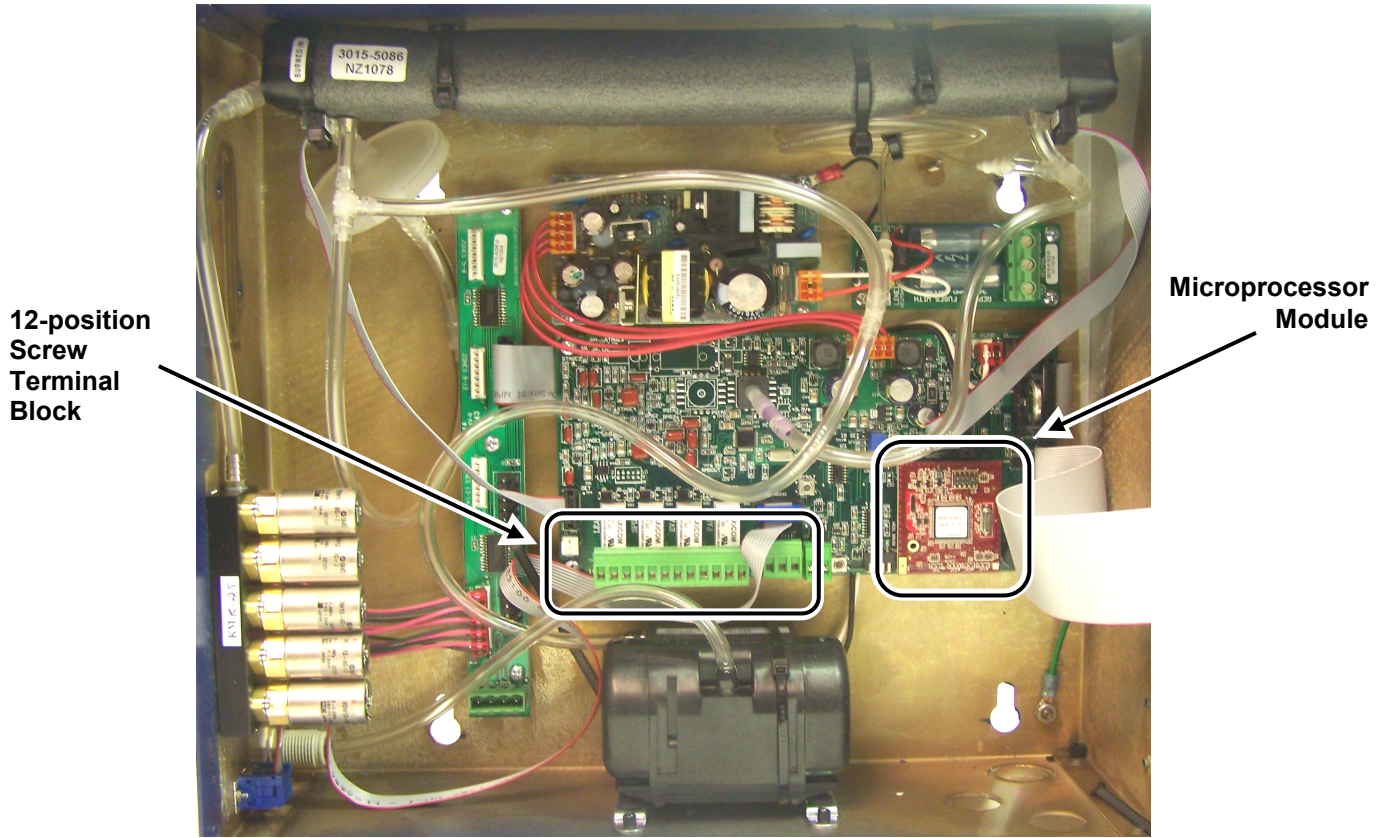

Figure 1. Locations of Terminal Block and Microprocessor Module Inside the Multi-zone Cabinet
- e. Locate the microprocessor module, socketed on the bottom right side of the main circuit board. Refer to Figure 1.